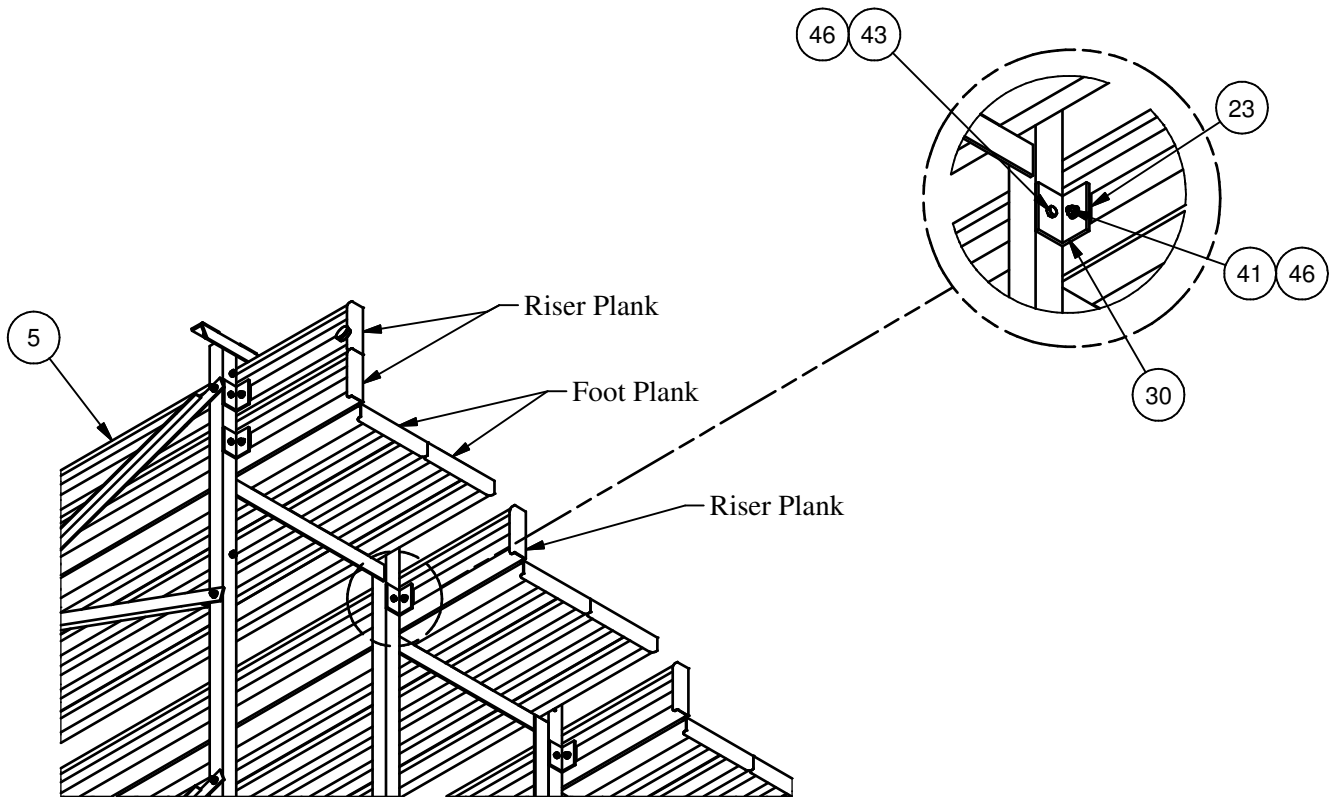

Figure 8
7. Install the riser planks on the 2nd through 10th row seat vertical angles. First install the riser mounting angle onto the upright using the 5/16" x 1" hex bolt and 5/16" whizlock nut. Note: Two (2) angles are used on the top row verticals. Once all the mounting angles have been installed at all frame positions, loosely install the mounting clip with the 5/16" x 1" carriage bolt and 5/16" whizlock nut. See figure 8. Angle clips are not required on the first row. Connect the first row riser to the first row upright with mounting clips, 5/16" carriage bolts and 5/16" nuts only.